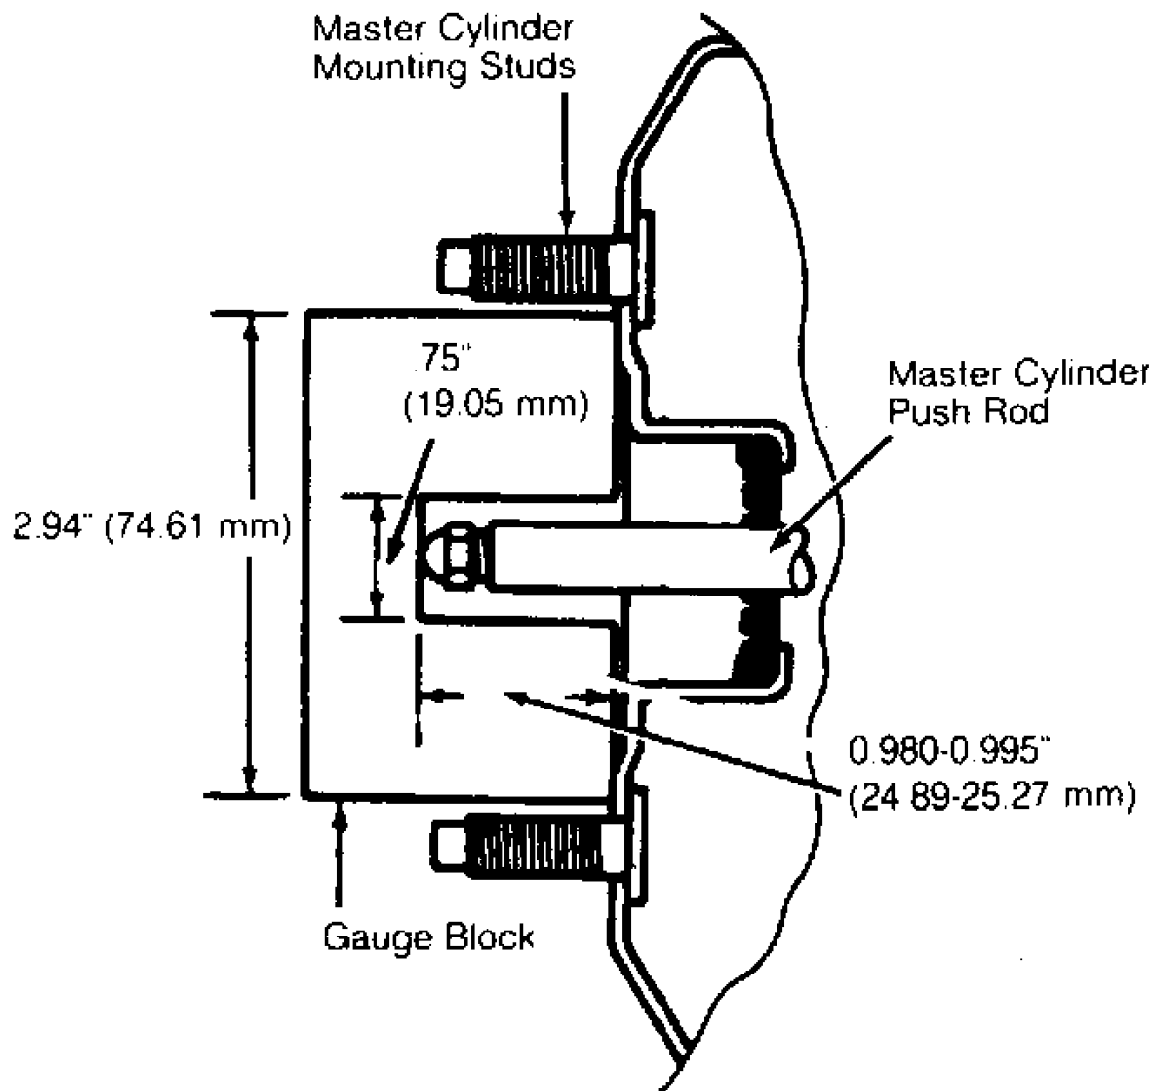

Fig. 1: Adjusting Brake Booster Push Rod (Navajo)
1) Remove master cylinder to gain access to push rod. To check screw adjustment, fabricate a gauge. See Fig. 1.